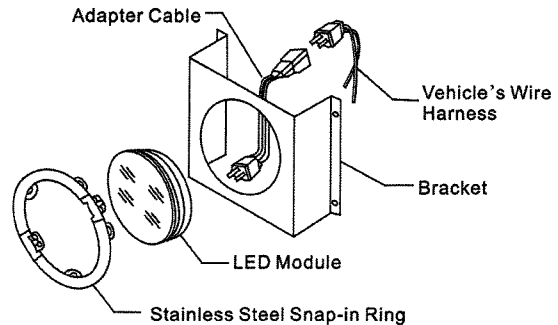

Figure4.
- iii. The 4" & 6" light using anti-theft stainless snap-in ring, see figure 4.